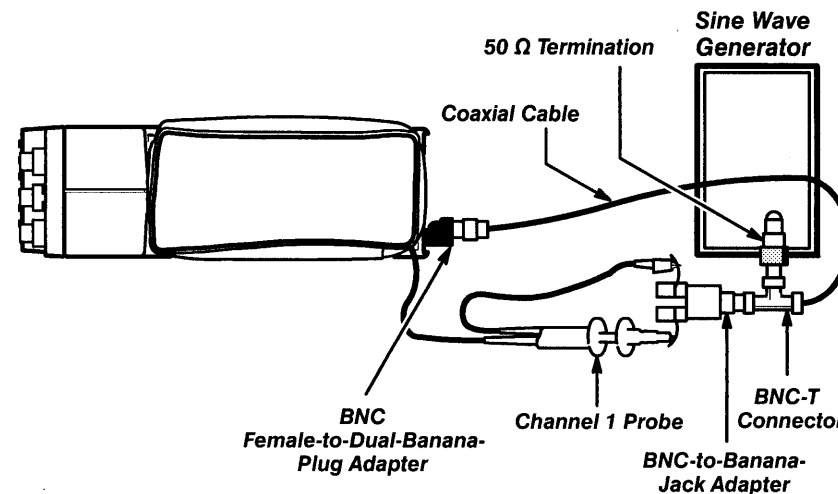

Figure A-19: Setup for External Trigger Sensitivity Check
2. Check External Trigger Sensitivity (Set up the test equipment as shown in Figure A-19.)